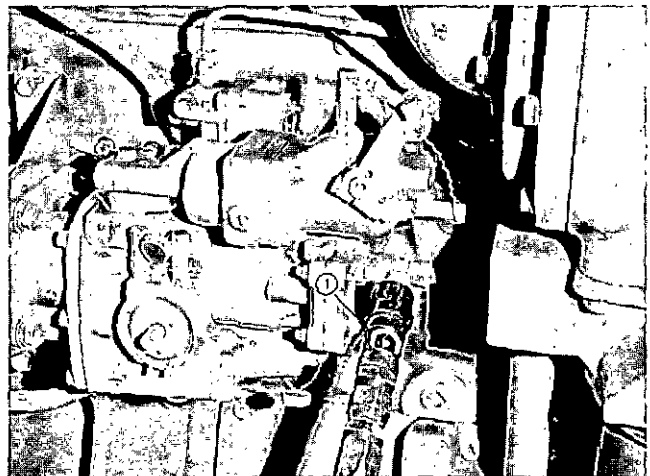

Fig. 5-2. Sight gauge in fuel suction line
2. If there are indications of air leaks on suction side of fuel pump, check for air leaks by placing a sight gauge (1, Fig. 5-2) in the line between fuel filter(s) and pump. Bubbles over 1/2 in. [1.270 cm] long or "milky" appearance indicates an air leak. Find and correct.